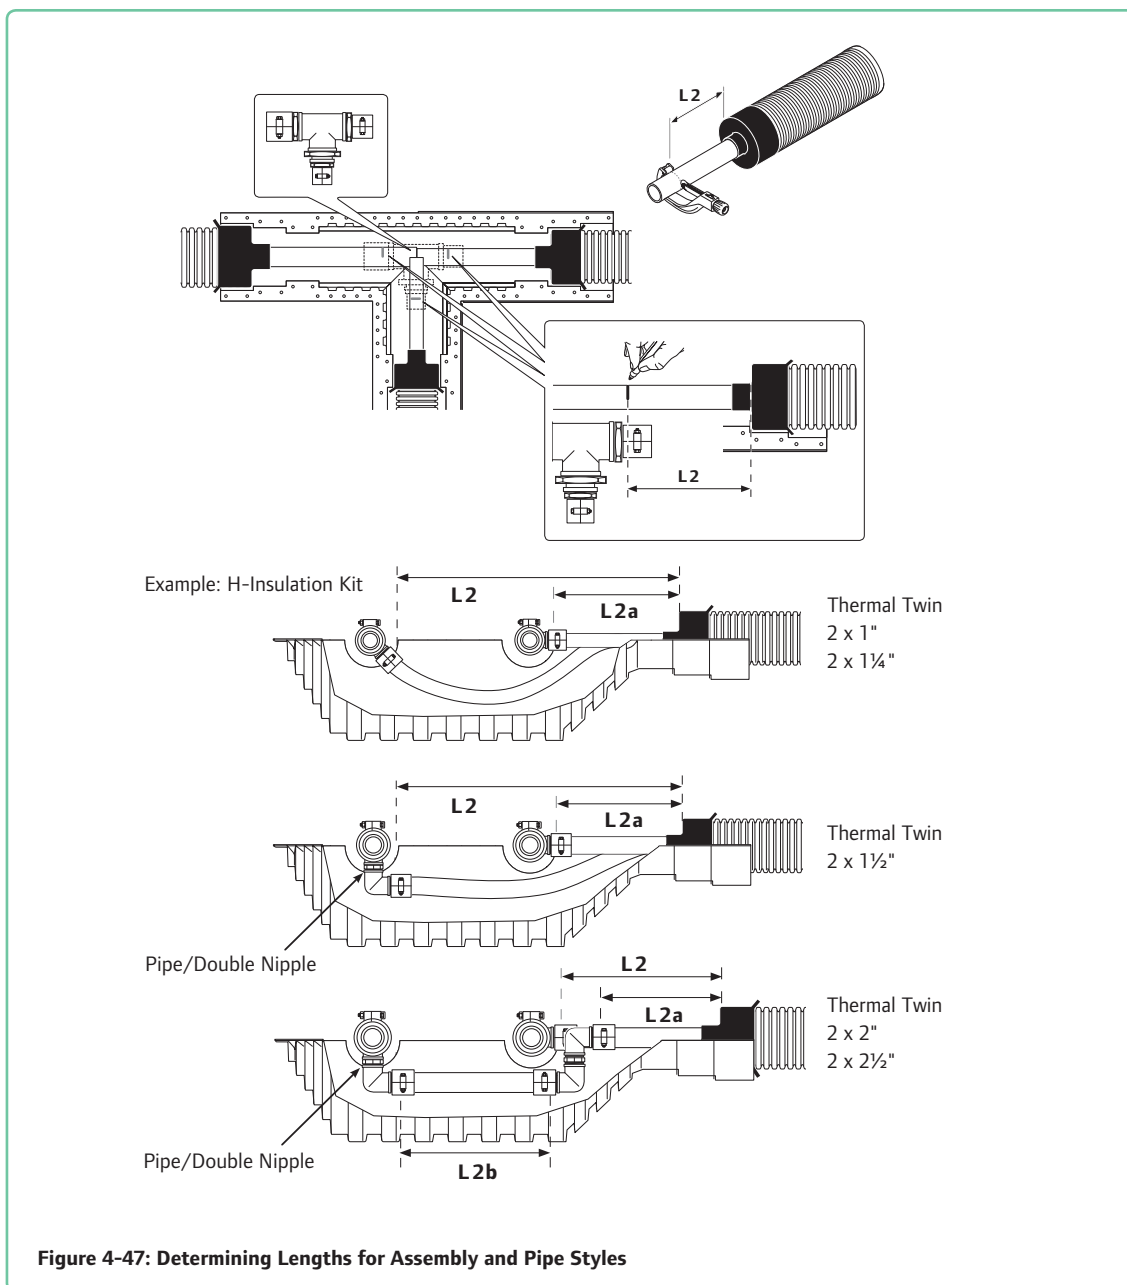

Figure 4-47: Determining Lengths for Assembly and Pipe Styles
1. Determine pipe lengths for the pipe assembly, measure the amount of pipe needed for the assembly. Refer to **Figure 4-47**.